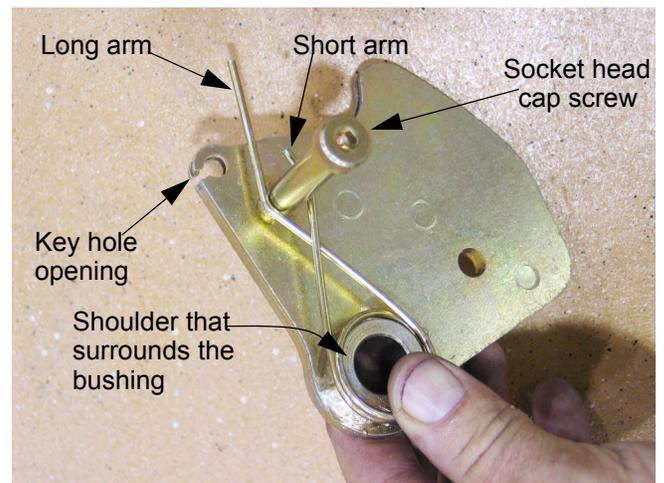

Figure 11.8
11.8. Orientation: on all four cable brackets, one side of the bushing shoulder is thicker than the other. See Figure 11.8.